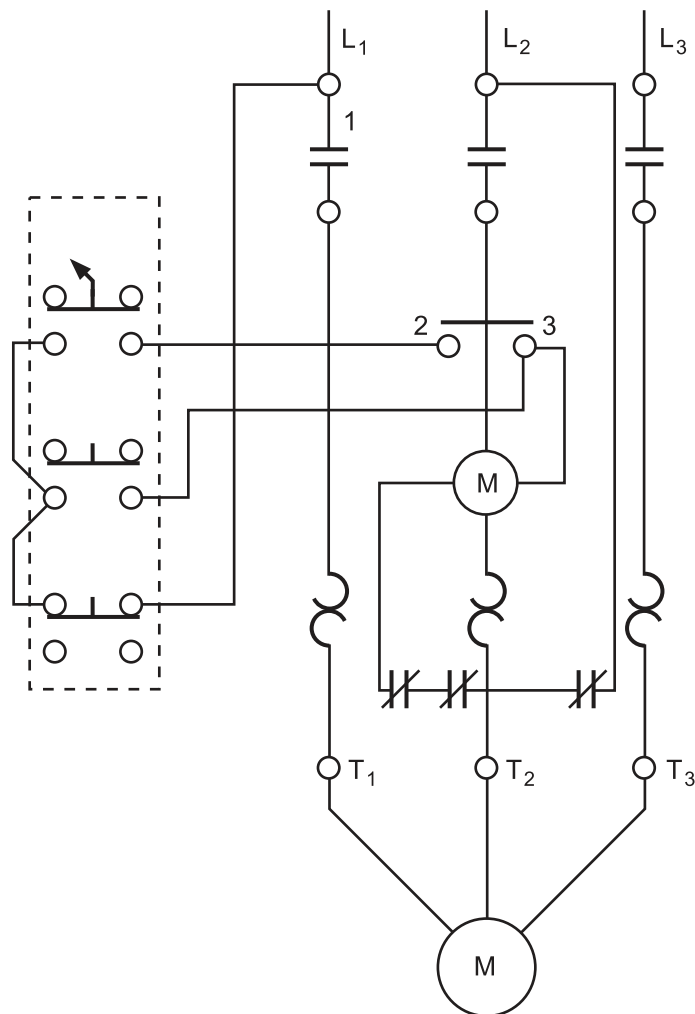

Figure 2—Circuit for Question 5
5. Using the wiring diagram in Figure 2, develop a schematic diagram for the control circuit.